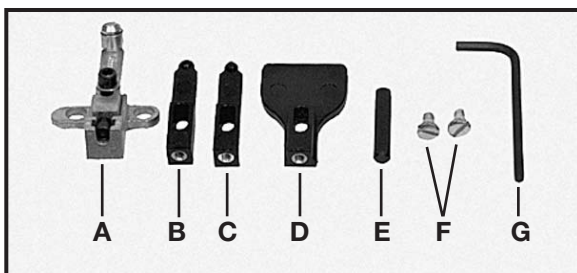
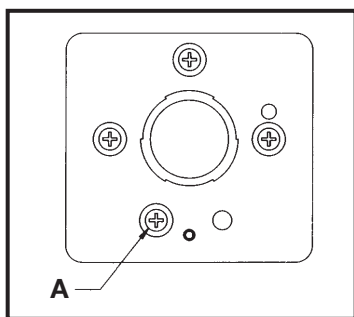
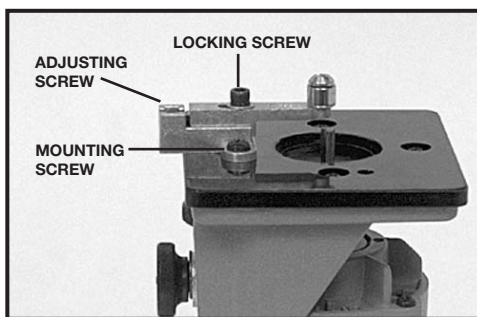

Fig. 4
Fig. 5
Fig. 5A
1. The base and roller guide (A) Fig. 4, are assembled at the factory. To assemble to trimmer: Remove one sub-base mounting screw (A) Fig. 5, insert alignment pin in guide base into hole in bottom of trimmer sub-base and fasten with two mounting screws (F) Fig. 4, as shown in Fig. 5A. Do not tighten at this time.
3. Align roller guide with bit by loosening locking screw (Fig. 5A) and turning adjusting screw, with wrench provided, until guide is in desired location.
2. Remove roller guide and replace with flush trimming guide (B) (Fig. 4). This guide may be identified by the molded on letter "F". Stud on end of guide must face towards trimmer base.
3. Install guide setting gauge (E) (Fig. 4) to trimmer so that hole in end of gauge may be positioned over stud in guide.
1. Follow steps 1 thru 5 under the previous section, except install bevel trimming guide (C) (Fig.4). This guide may be identified by the Letter "B" molded on.
The Straight Edge Guide (D) (Fig. 4) may be used with either 44858PC or a pilotless bit with  $\frac{3}{8}$ " length flute for trimming long straight edges.